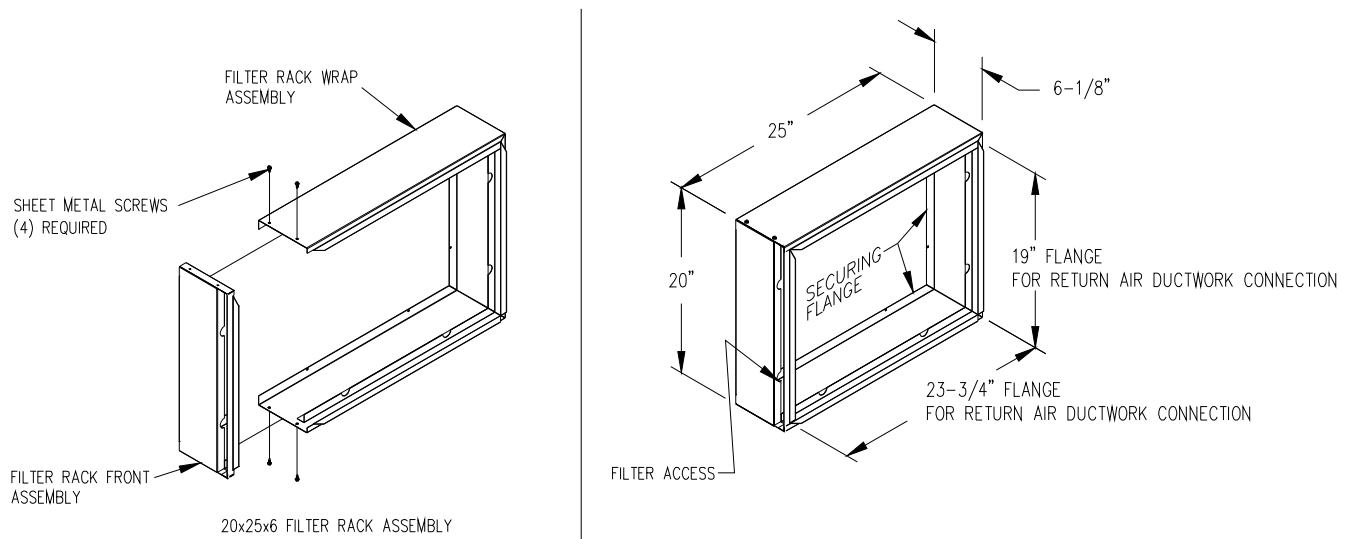

Fig. 9: A typical filter rack and dimensions for the VH8 furnace.
On **highboy** furnaces, it is necessary to cut the return air opening in the side, rear casing or base, depending upon the needs of the specific installation. The filter rack provided with the furnace, refer to Fig. 9, will serve as a template to scribe a mark for the return air opening on the casing. Place the filter rack on a side casing approximately one inch up from the bottom of the furnace and centered from side to side. Place the securing flange against the casing when locating the return air opening. For your convenience, (4) locator knockouts have been placed at the proper locations on both the left and right side casings.
Connect the return air plenum to the filter rack and slide the filter into place. Dimensions for adapting the return air plenum to the filter rack are provided (See Fig. 9).